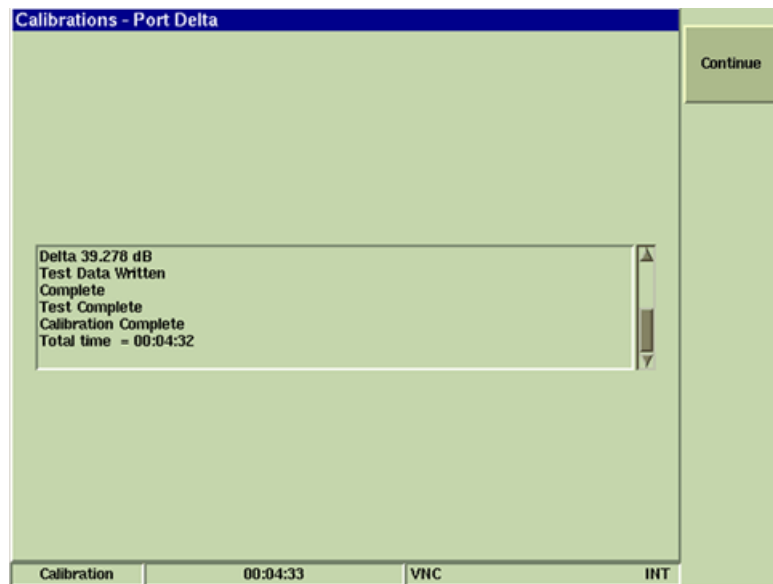

Fig. 4-29 Port Delta Calibration Complete
5. When the Port Delta Calibration Procedure is complete, verify Calibration Complete is displayed in dialog box as shown in Fig. 4-29.